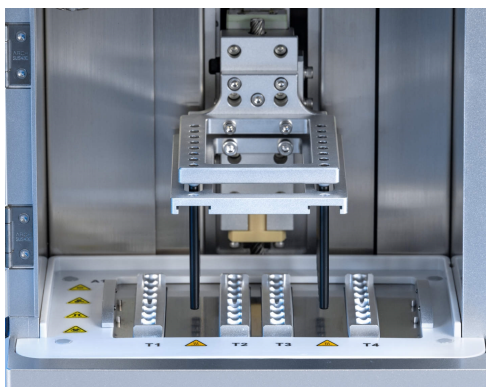

Figure 20. Position of rod cover holder and magnet bars for installation of transport lock screw.
3. Prepare the instrument for insertion of the transport lock screw by manually moving the rod cover holder and magnetic bars to the middle of the instrument and then to the bottom of the instrument. End position is shown in Figure 20.